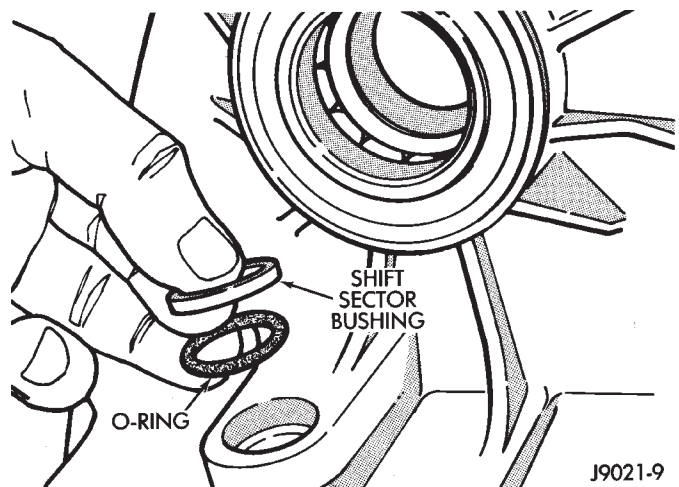

Fig. 20 Removing/Installing Sector Shaft Bushing And O-Ring
(30) Remove sector shaft bushing and O-ring (Fig. 20).